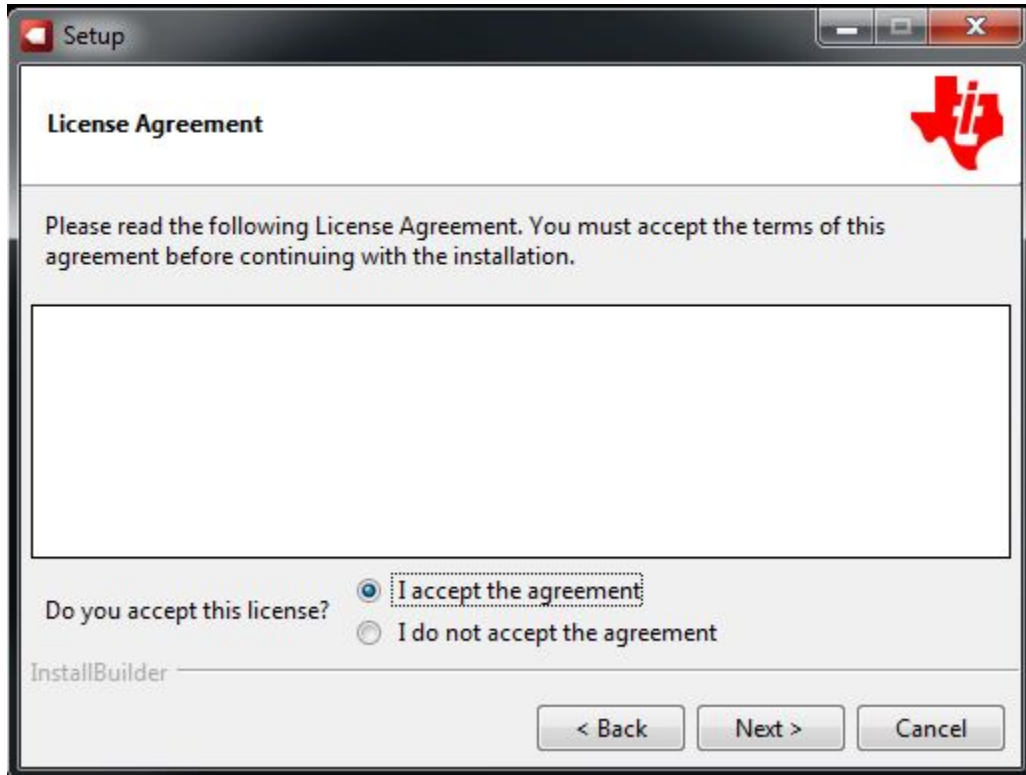

Figure 3. BOOSTXL-TLC2543 EVM GUI Installation
2. Accept the *License Agreements* and follow the on-screen instructions to complete the installation (see Figure 3).